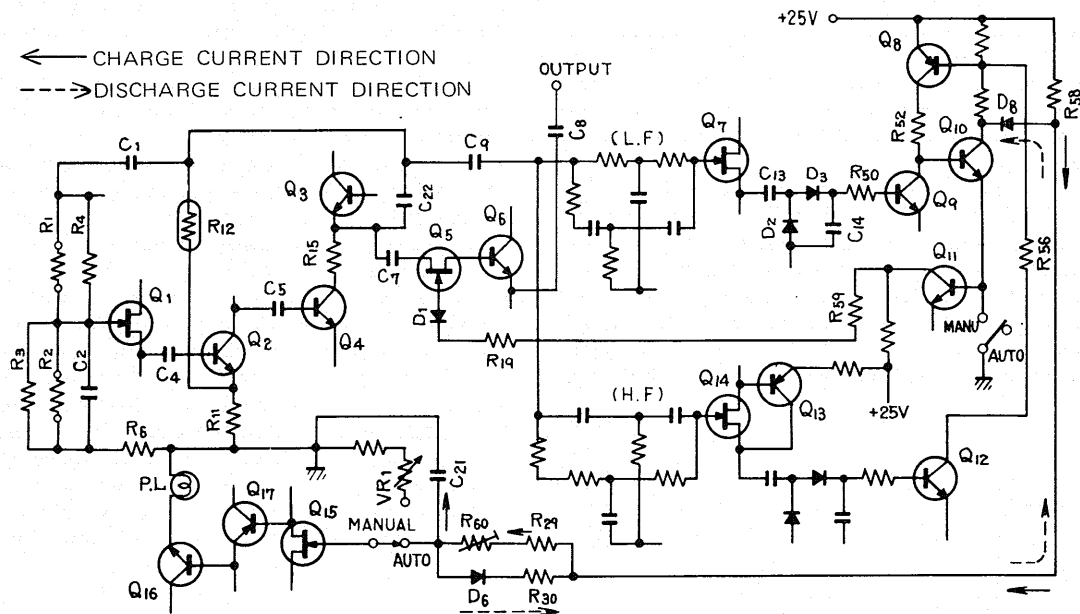

Fig. 10
Figs. 10 and 11 show simplified circuit diagrams of the audio sweep generator. The oscillator circuits are designed as typical CR-type Wien bridge generator. Fig. 12 (A) shows the operation of the Wien bridge oscillator.
Q11 is a kind of trigger for the output muting circuit. During charging time, Q11 is off, and the output signal is available through Q5 and Q6. During discharge, however, Q11 becomes conductive, whereby Q5 and Q6 are shut off, and no signal appears at the output. Refer to figs. 10 and 13.